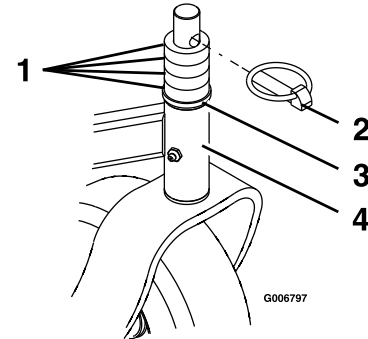
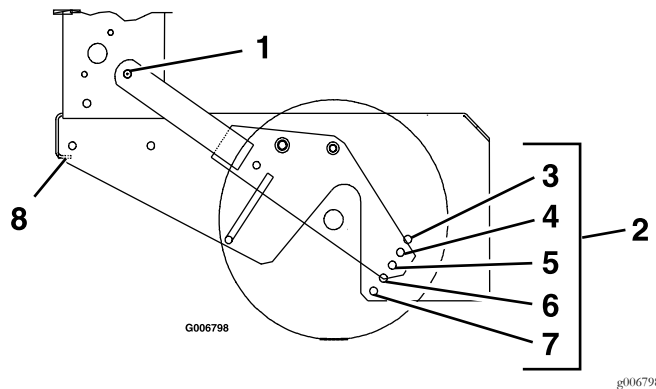

Figure 11
Figure 10
Desired cutting height range can be obtained by adjusting the rear axle and placing caster spacers above or below the caster arm (See Figure 10 and Figure 11 along with the Cutting Height Adjustment Chart). It may be necessary to readjust wheel drive and brake linkages.
5. Loosen but do not remove the two axle pivot bolts and the two axle adjustment bolts (see Figure 10).
6. Remove “quick pin” from one caster and remove caster from hub (see Figure 11).